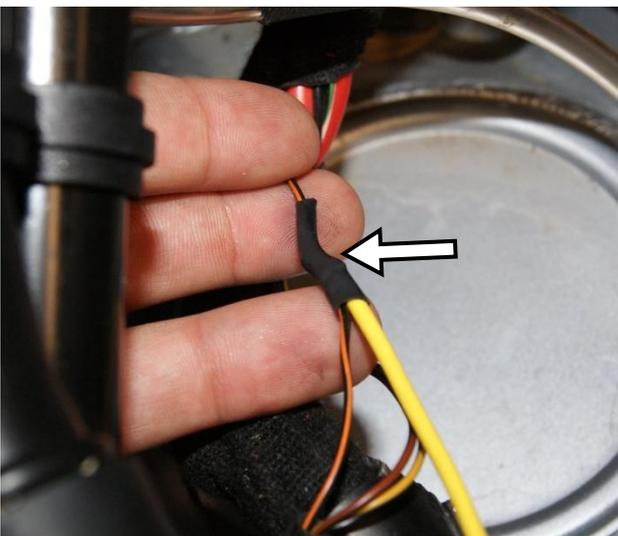

Figure 17 (997)
- '85'- Positive source when key is in "ON" position (figure 17).